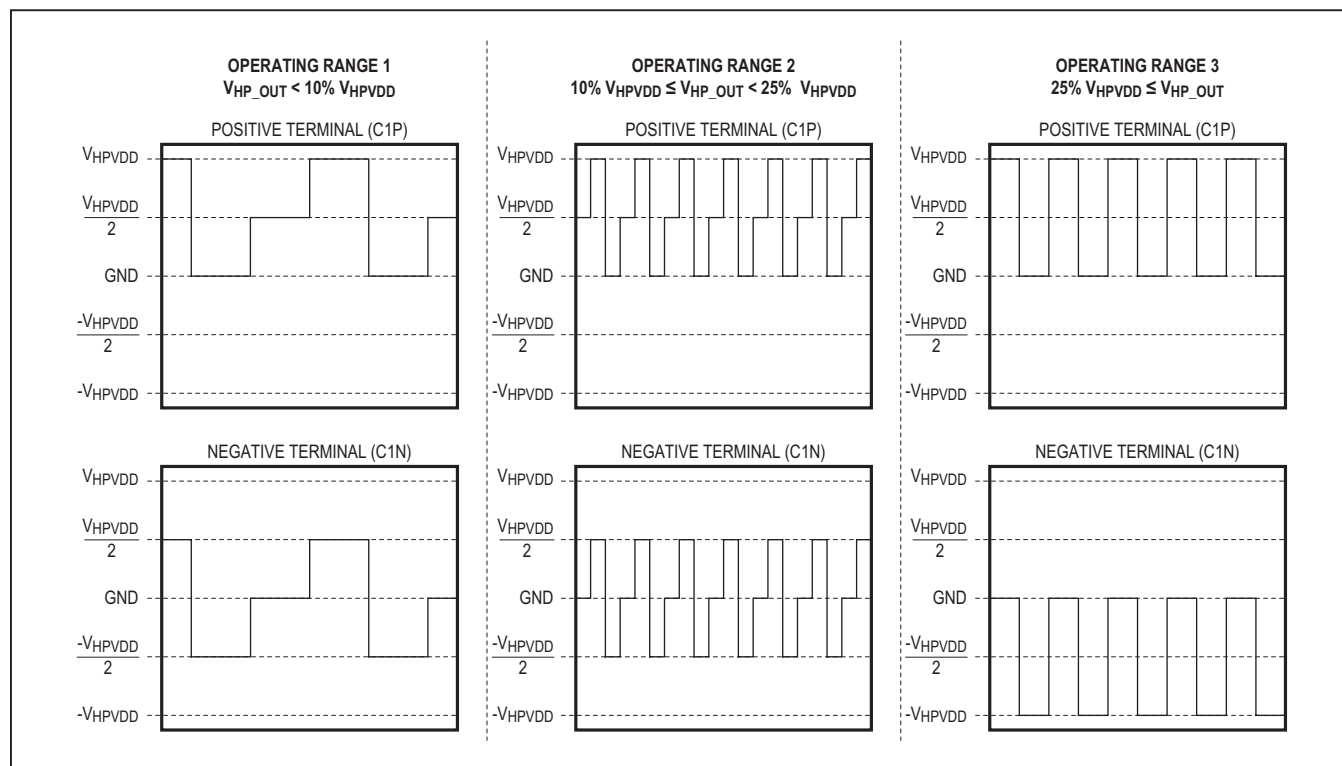

Figure 40. Class H Amplifier Charge Pump Operating Ranges
**Range 1 ( $V_{HP\_OUT} < 10\%$  of  $V_{HPVDD}$ ):** When the output signal level is less than 10% of HPVDD, the output signal swing is low and the power consumption for driving the headphone load is small relative to the charge pump quiescent consumption and switching losses. Therefore, to minimize switching losses, the charge-pump frequency is reduced to its lowest rate (~82kHz) and the bipolar output supply rails are set to half of HPVDD or  $\pm V_{HPVDD}/2$  (Figure 40, Range 1).
quiescent consumption and switching losses. To meet the increased load power requirements, the charge-pump switching frequency increases (~660kHz) while the bipolar output supply rails remain at half of HPVDD or  $\pm V_{HPVDD}/2$  (Figure 40, Range 2).
**Range 3 ( $25\%$  of  $V_{HPVDD} \leq V_{HP\_OUT}$ ):** When the output signal level exceeds 25% of HPVDD, the output signal swing is much wider. As a result, the charge pump now generates bipolar full HPVDD output supply rails ( $\pm V_{HPVDD}$ ). The switching frequency in this range is slightly lower (~500kHz). However, the increased voltage differential allows the headphone output driver to reach its maximum voltage swing and load driving capability (Figure 40, Range 3).